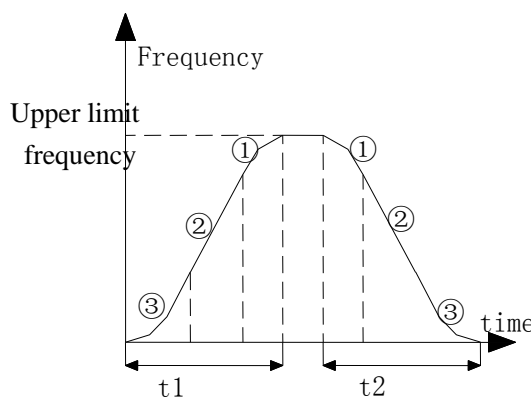

Fig.4-5 S-curve
Output frequency increases or decreases as S-curve, see Fig.4-5.
Low speed time of S curve is shown in Fig.4-5 ③, the output frequency slope increases from 0.
Linear part time of S curve is shown in Fig.4-5 ②, the output frequency slope is constant.
High speed time of S curve is shown in Fig.4-5 ①, the output frequency slope decreases to 0.